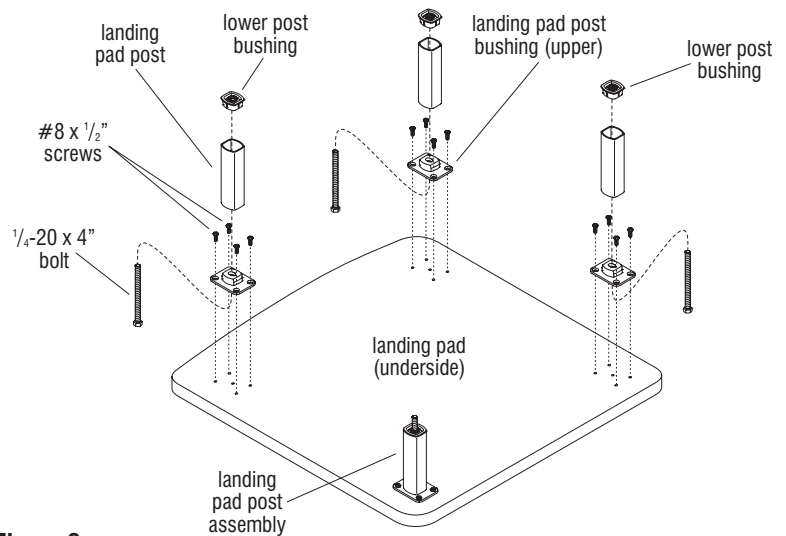
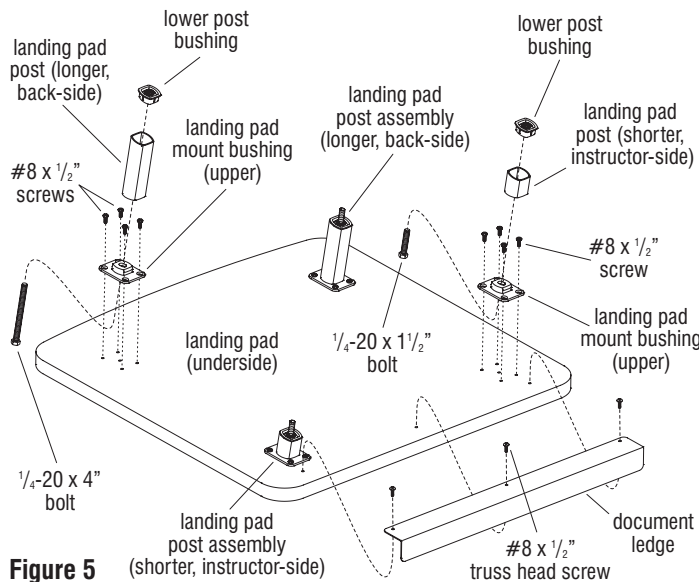

Figure 3
Figure 5
1. Determine the style of landing pad to be installed by locating and examining the landing pad hardware pack. The hardware pack for "flat" landing pad installation will include four of the same size landing pad posts (Figures 3 & 4). The hardware pack for the sloped landing pad installation will include two longer, and two shorter landing pad posts (Figures 5 & 6). Refer to the correct instructions on either this, or the following page.
1. Carefully place the flat landing pad upside down on a soft, protective surface. Open the hardware pack and familiarize yourself with all parts and hardware (Figure 3).
2. Insert four  $\frac{1}{4}$ -20 x 4" bolts into the four upper landing pad post bushings as illustrated, then secure each upper landing pad post bushing with bolt to the landing pad underside using four #8 x  $\frac{1}{2}$ " screws as illustrated (Figure 3).
3. Place a lower post bushing onto each landing pad post and press each of four post with lower busing assembly onto each of four installed upper landing pad bushings with bolts as illustrated (Figure 3).
1. Carefully place the slopped landing pad upside down on a soft, protective surface. Open the hardware pack and familiarize yourself with all parts and hardware. Take special note of the two different sized landing pad posts and the two different sized attachment bolts (Figure 5).
2. Orient the user side of the landing pad to be over the edge of a table (or the binder tower top) for ease of installation, then align the mounting holes of the document ledge with the pre-drilled mounting holes on the underside of the landing pad. Secure the ledge to the front, user side of the pad using three #8 x 1/2" truss head screws (Figure 5).
3. Insert two 1/4-20 x 4" bolts and two 1/4-20 x 1 1/2" bolts into the four upper landing pad bushings as illustrated (Figure 5).
4. Secure the upper bushings with the shorter 1 1/2" long bolts to the underside of the landing pad near the document ledge using four #8 x 1/2" screws each. Then secure the two upper bushings having the 4" long bolts to the underside of the landing pad using four #8 x 1/2" screws each (Figure 5).
5. Place the lower post bushings down onto the flat, bottom sides of the landing pad posts (two tall and two short) as illustrated. Position the shorter landing pad post/bushings to the installed upper bushings closest to the installed document ledge. Take care to orient the angled edge of the posts correctly to match the slope of the landing pad underside (Figure 5).
6. Repeat the above procedure with the longer landing pad posts, positioning them to the rear upper bushings at the 4" bolt locations, correctly matching the slope angle (Figure 5).